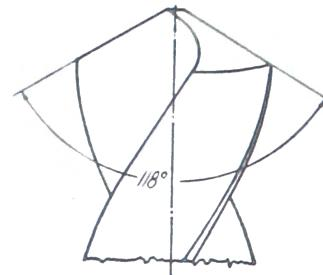

Figure 1
**T**O get the maximum efficiency and full life of a drill, it is absolutely essential that it be properly ground at the point. The two cutting edges must be (1st) of exactly the same length (2nd) of the same inclination to the axis of the drill.  $59^\circ$  is recommended as the best angle for ordinary purposes (see Fig. 1).